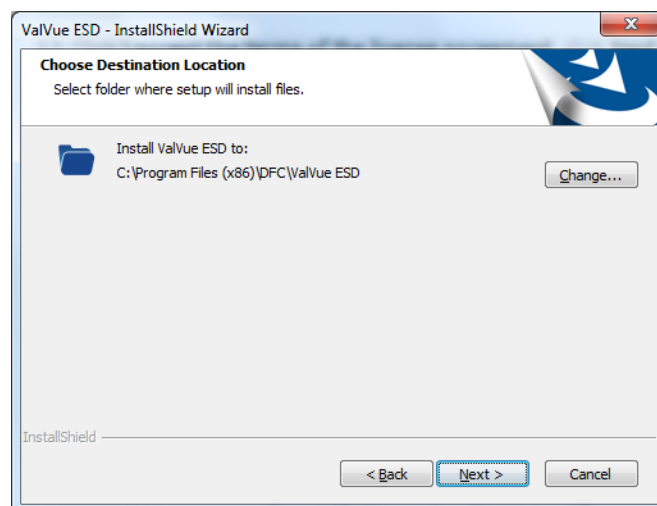

Figure 6 - Destination Folder
3. Click **I accept the terms of the license agreement**, click **Next** and *Figure 6* appears.